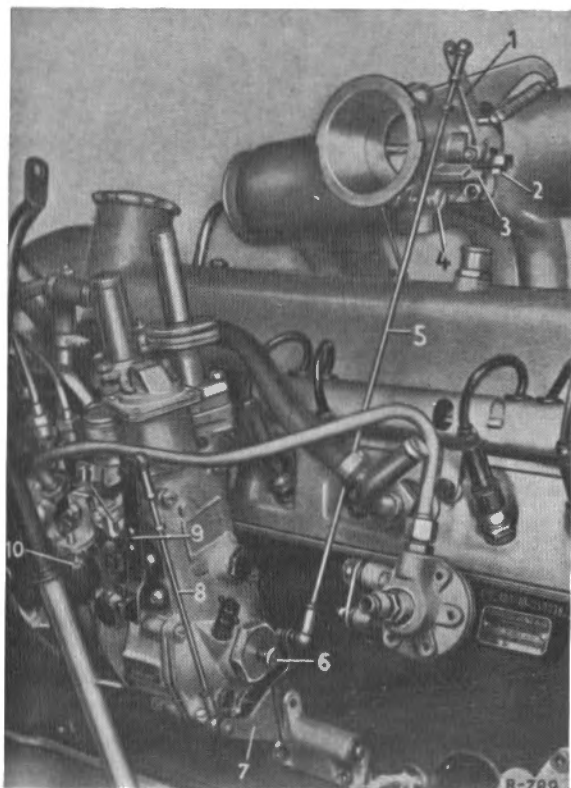

Fig. 00-16/15
It is possible to adjust the fuel-air mixture for the idle by means of the idle air throttle (4) on the venturi control unit and the spring-loaded idle control knob (6) on the injection pump in such a way that the engine runs smoothly and the desired speed is obtained (see Job No. 00-0 and Fig. 00-16/15). Incorrect composition of the mixture, in addition to causing an irregular idle, may also produce jerky running of the car at low speeds: (between 20 and 40 km/h in fourth gear). See also Section "C. Readjustment of Speed Build-Up", b.
Caution! The spring-loaded idle control knob on the injection pump must only be operated when the engine is not running since the knob rotates as soon as it engages in the slot of the adjusting screw on the centrifugal governor (No. 6 in Fig. 00-16/15 and No. 10 b in Fig. 00-16/16).